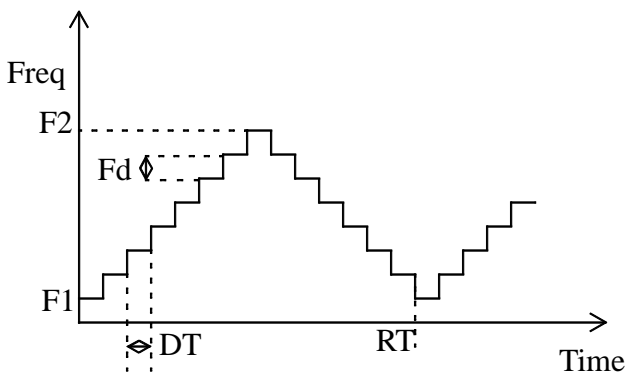

Figure A1: Mode 2 Timing.
8.5 **Mode 2.** Ramped FSK. In Mode 2, the output frequency is continuously ramped from F1 to F2 to F1 in steps of Fd with dwell times of DT. Figure A1 gives a visual representation.